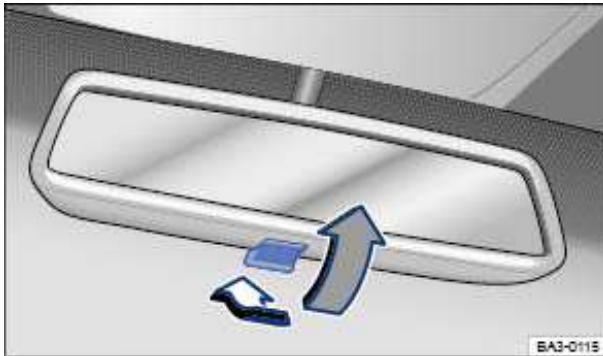

Fig. 106 Manually adjustable inside mirror.
- To adjust to non-glare visibility, move the lever so that it points backward ⇒ fig. 106.